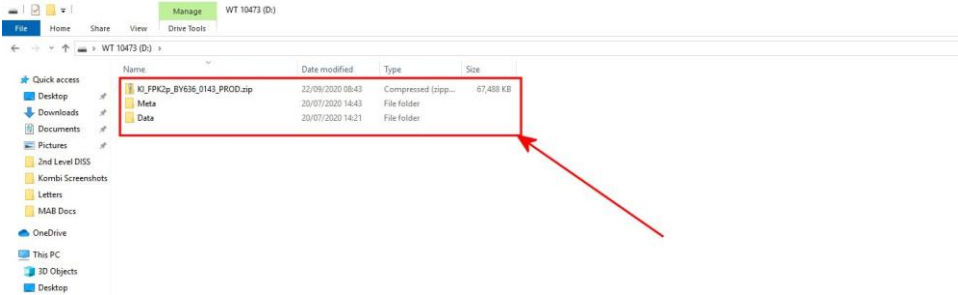

Figure 6
6) When the file has fully extracted, the files on the USB stick will be as shown in Figure 6